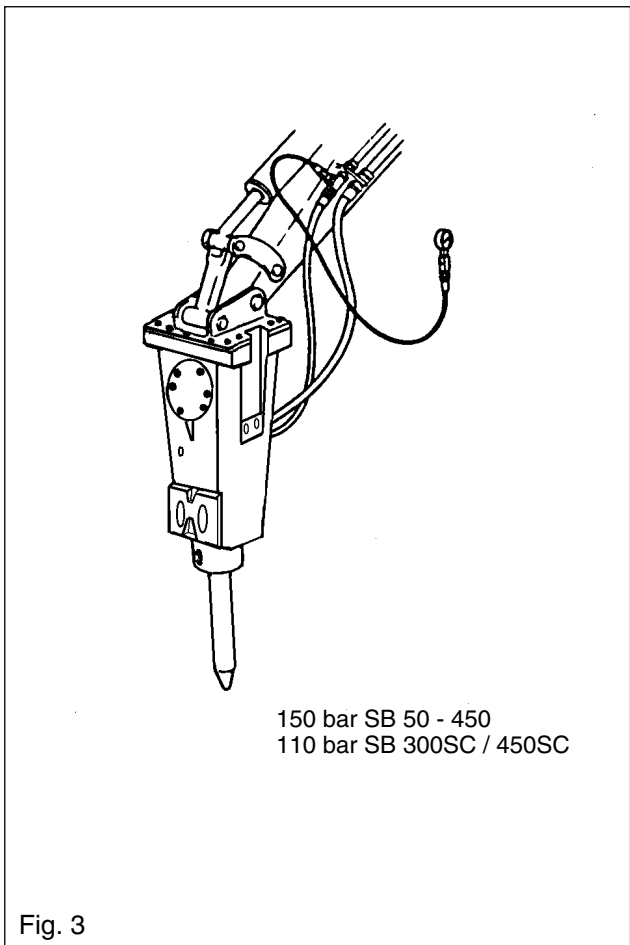

Fig. 3
- Hammer working pressure. See Technical Data. The pressure is set with the help of a pressure gauge while the hammer is in operation, fig 3.